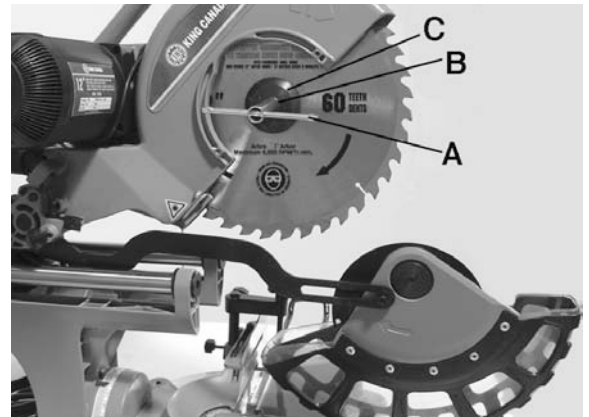

Figure 21
7. Use the blade wrench (A) Fig.21 provided to remove the blade bolt (B), loosen in a clockwise direction as the blade bolt has a left hand thread.
8. Remove the outer blade flange (C) and the blade.